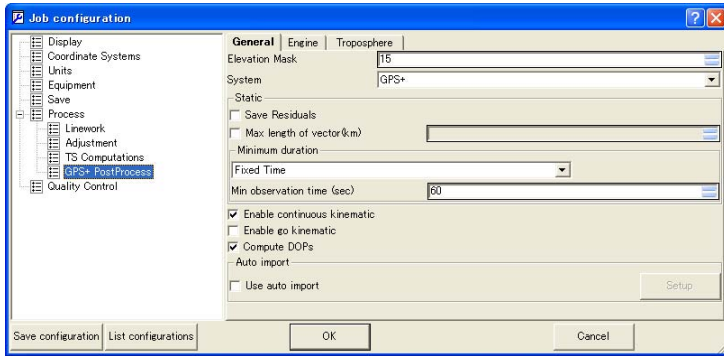

Figure 2-41. Job Configuration – GPS+ PostProcess
- The *GPS+ PostProcess Process* sub-menu option (Figure 2-41 on page 2-30) sets the following parameters: